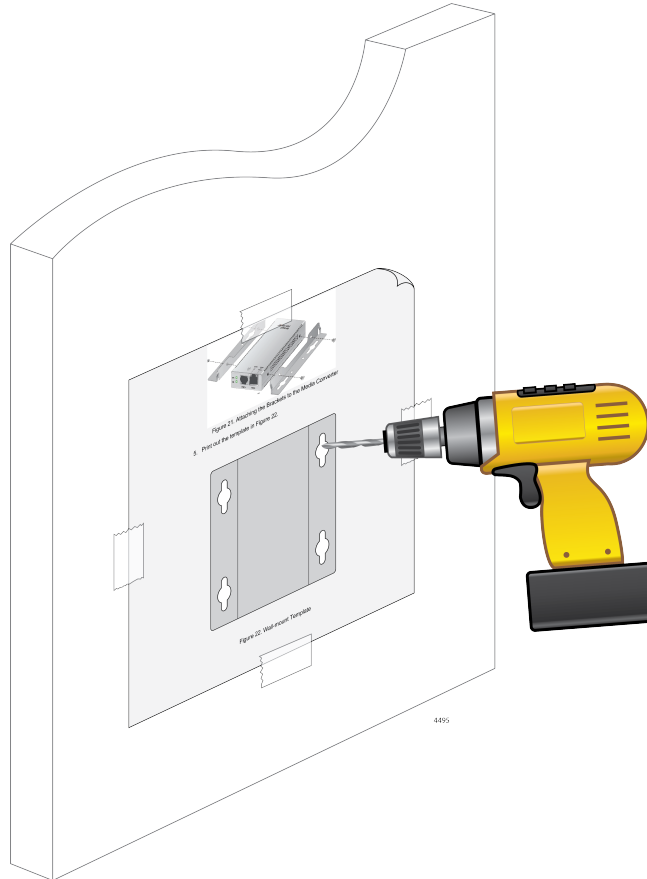

Figure 33. Placing the Template on the Wall
7. Pre-drill four 3/16" (5mm) holes at the locations on the template as shown in Figure 33.